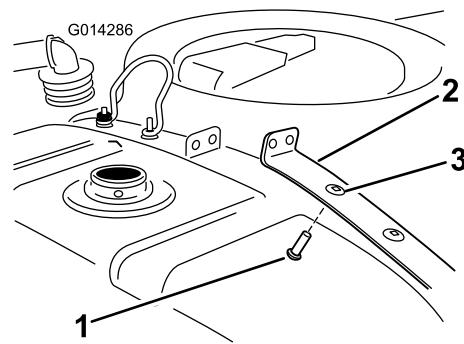

Figure 8
9. To ensure that there are studs on the rear left and rear right tank straps. If there are no studs present, install a carriage bolt through each of the inboard holes (threaded section upward) on both the rear left and rear right tank straps (Figure 8).